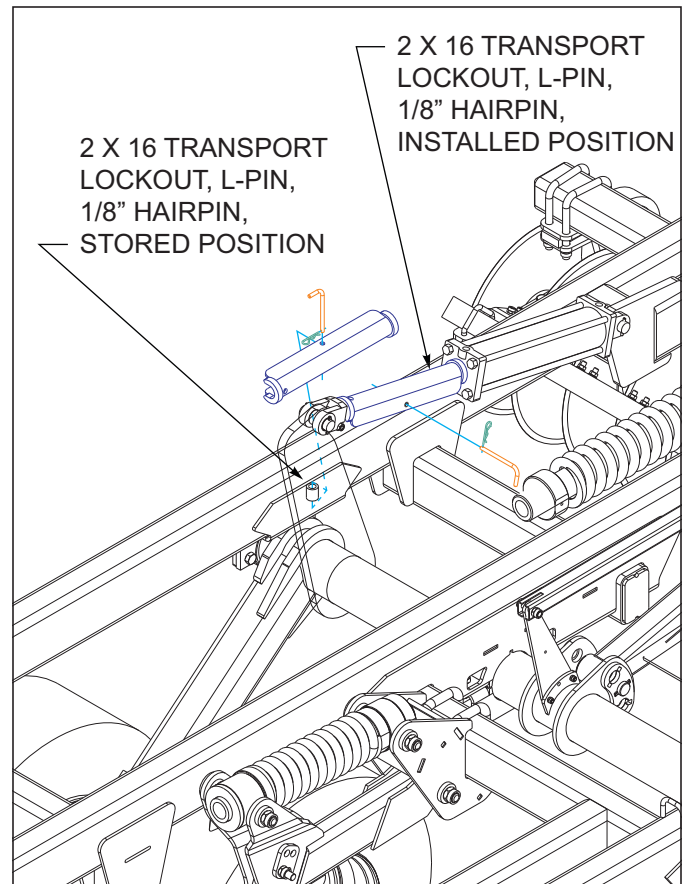

Figure 4-2: Transport Locks
1. The hydraulic system is not filled with oil and should be purged of air before transporting and field operations. Carefully hitch the Coulter Chisel to the tractor and connect the hydraulic lift hoses. Check to make sure the tractor hydraulic reservoir is full of the manufacturer's recommended oil. Slowly raise the machine, and continue to hold the hydraulic lever until all lift cylinders are fully extended. With all cylinders fully extended remove the 2 X 16 transport lockouts *See Figure 4-2*. Store transport lockouts as shown *See Figure 4-2*. Lower and raise the unit to verify that all cylinders are working simultaneously throughout the stroke. Do not loosen any hoses or fittings. Recheck tractor reservoir to make sure it is within operating limits.